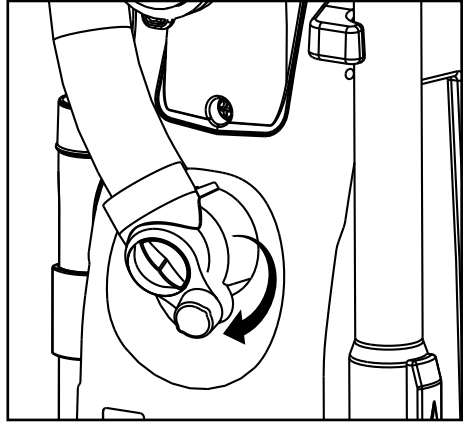

Fig. 1
- Turn the Suction Dial to the open position. Remove the clog or blockage (Fig. 1).